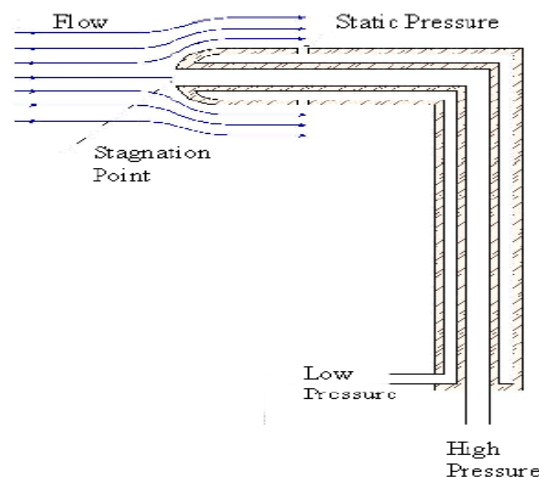
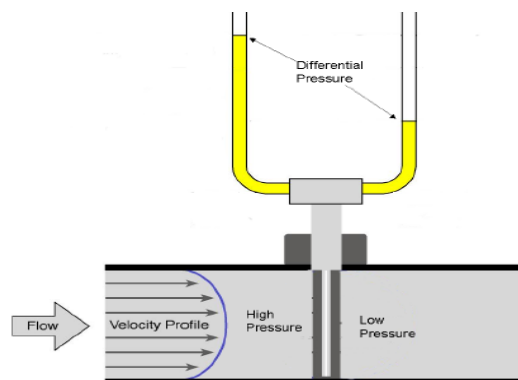

Figure 9
Figure 10
Up to now, our flow measurement loop can be represented by the installation shown in Figure 9. The high and low-pressure taps of the primary device (orifice type shown) are fed by sensing lines to a differential pressure (D/P) cell. The output of the D/P cell acts on a pressure to milliamp transducer, which transmits a variable 4-20 ma signal. The D/P cell and transmitter are shown together as a flow transmitter (FT).
To convert the signal from the flow transmitter, (figure 9 above) to one that is directly proportional to the flow-rate, one has to obtain or extract the square root of the signal from the flow transmitter. Figure 10 illustrates the input - output relationship of a square root extractor.